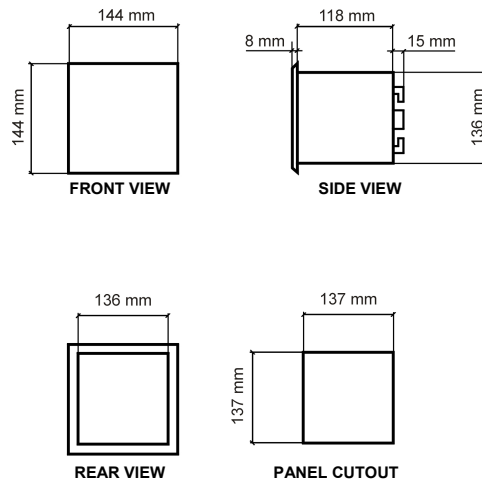

Figure 2.1 –IPR-D overall dimensions
3. Make a cutout in the panelboard of 137 x 137 mm [→ Fig. 2.1] and fix the relay by using the fixing elements provided with the relay.